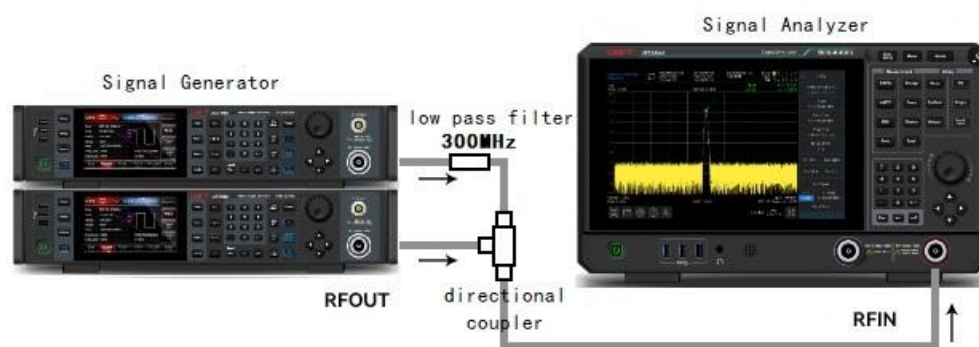

Figure 3-18 Instrument Setting for Third-order Intercept Signal
1. As shown in Figure 3-18, connect the input port of the signal analyzer via a low pass filter and a directional coupler. The output of the directional coupler provides a two-tone signal source with low intermodulation distortion.